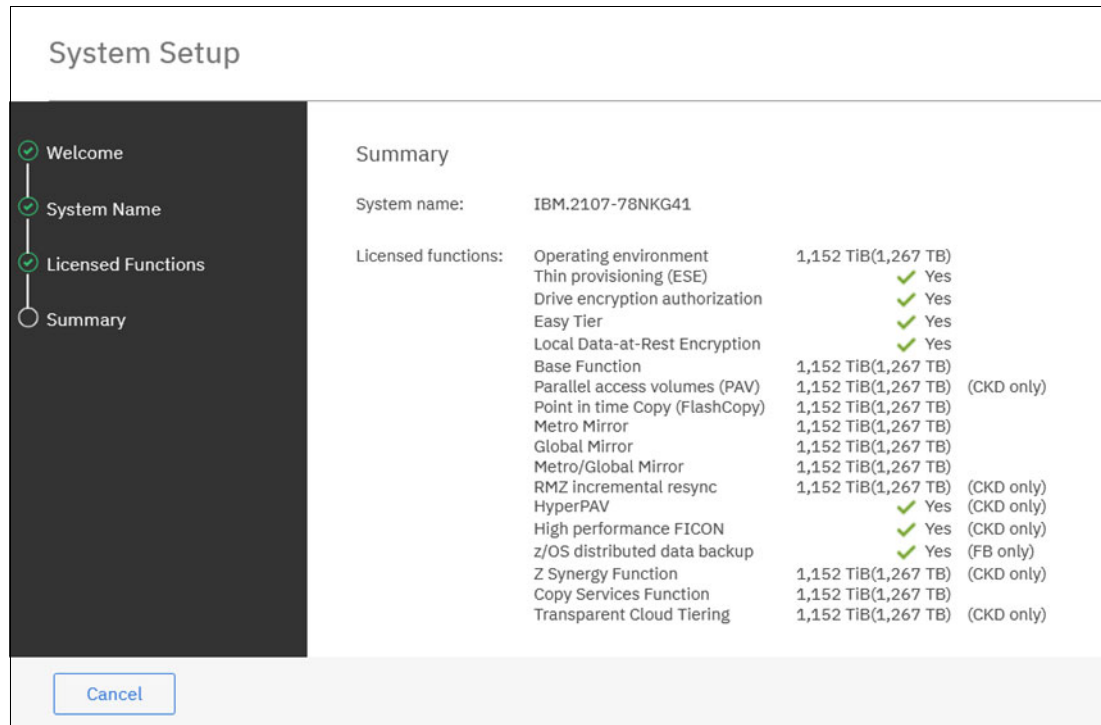

Figure 9-7 System Setup: Summary
- Click **Next** to open the Summary window, which is shown in Figure 9-7. If everything looks correct, click **Finish** to exit the System Setup wizard. After the wizard is closed, the System window opens.